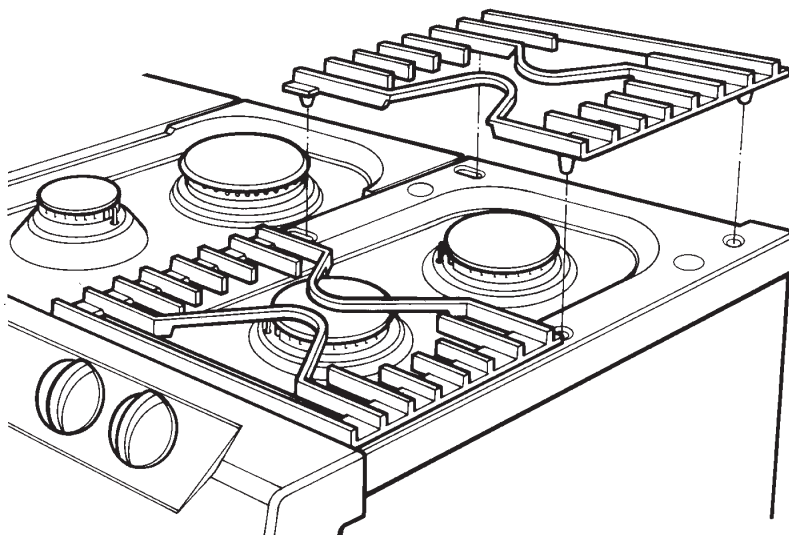
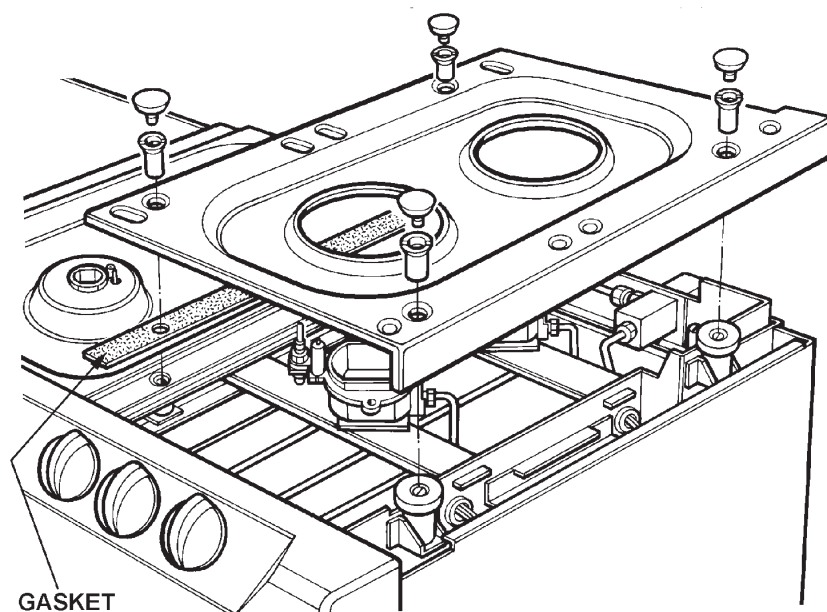

Fig. 21
Fig. 22
2. Remove pans supports and burner caps. (See Fig. 21).
3. Remove burner fixing screws (14) and hotplate fixing nuts (8).
4. Lift off burner fixing rings (6).
5. Lift off hotplate castings in the following order: left hand, right hand and centre. (See Fig. 22).